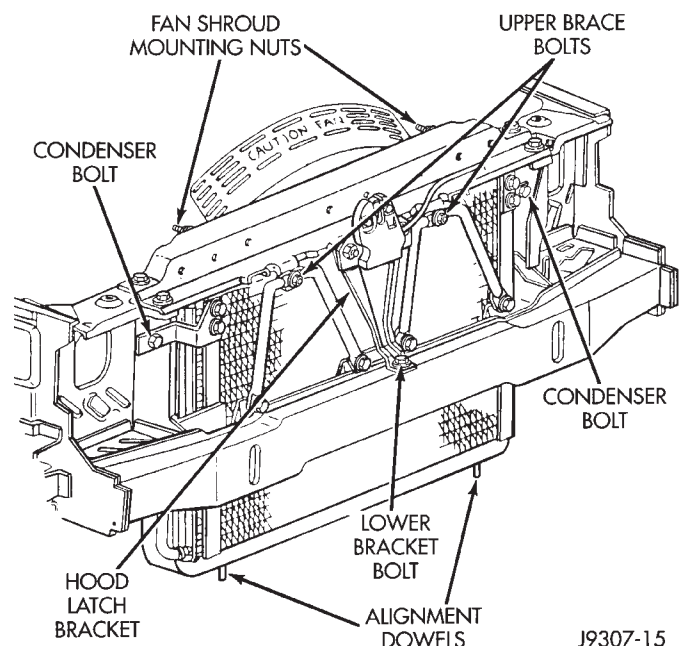

Fig. 49 Fan Shroud Mounting Nuts
(2) Remove the two fan shroud-to-upper radiator crossmember mounting nuts (Fig. 49).
- (3) Remove two fan shroud-to-upper crossmember nuts (Fig. 49).
- (4) Remove fan shroud and fan blade/viscous fan drive assembly as a complete unit from vehicle.